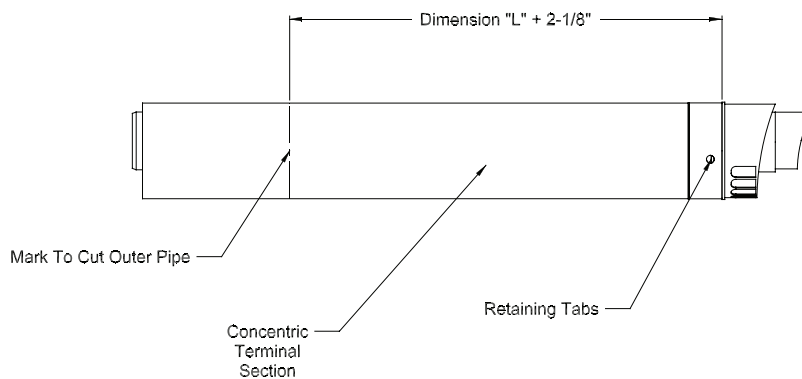

FIGURE 7.22: CUTTING OUTER PIPE
- b) Add 2-1/8" to distance "L". Carefully mark this length on the pipe as shown in Figure 7.22.
- c) Press in the two tabs holding the plastic terminal in the terminal section (Figure 7.22). Carefully pull out the terminal and the inner pipe.